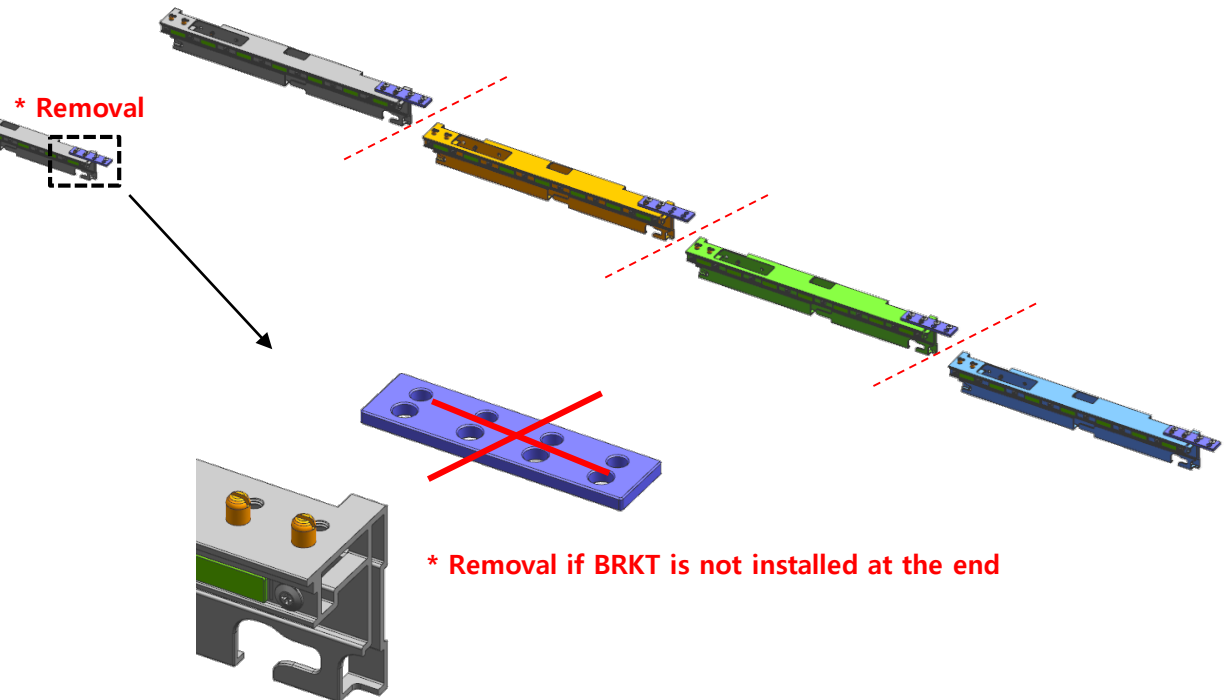

Fig.2
* It is possible to use 1, 2, and 3 stages using BRACKET LINK assembly and disassembly. (Fig.2)